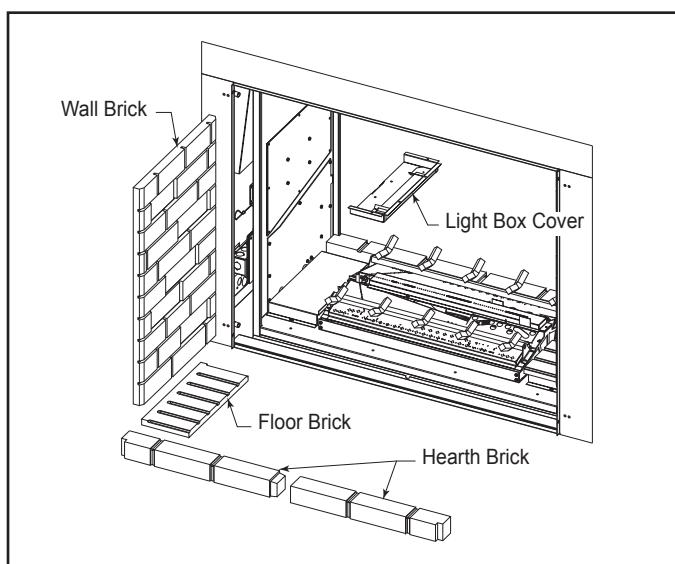

Figure 10.10 Install Brick
2. Install the four (4) hearth brick pieces, two on each side of the unit, in front of the burners from the indoor side.
4. Place the wall brick panels against the firebox walls, setting on the floor and hearth bricks. The wall brick will be held in place by the brick retainer tab on the light box cover. See Figure 10.10.